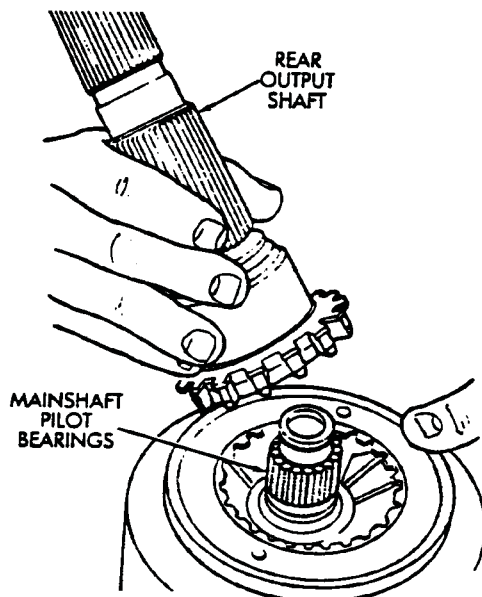

Fig. 4-62 Install Rear Output Shaft And Mainshaft Pilot Bearings
60. Install pilot roller bearings on mainshaft (Fig. 4-62). Use additional petroleum jelly to hold rollers in place if necessary.
61. Install rear output shaft on mainshaft (Fig. 4-62). Seat rear shaft in viscous coupling